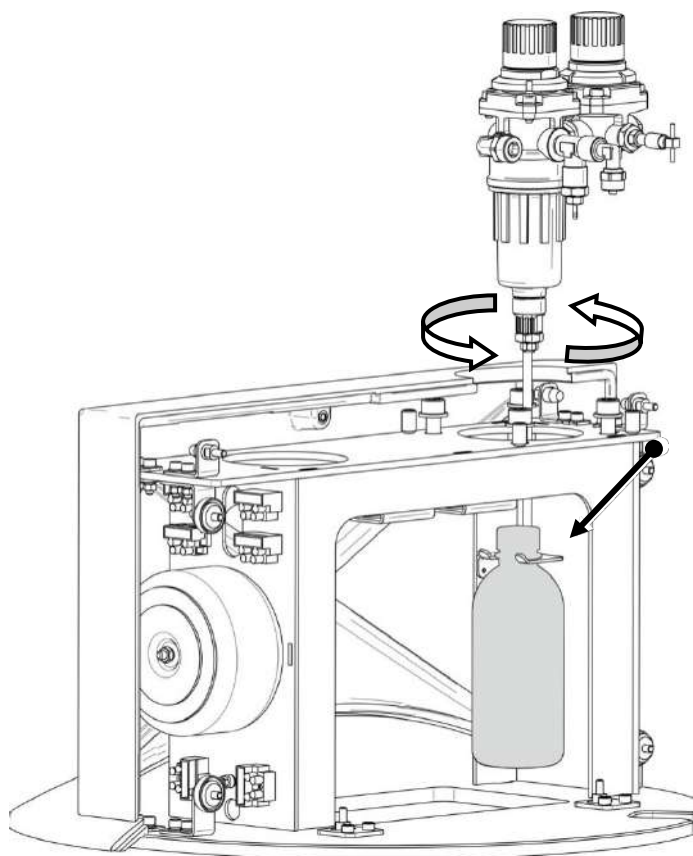

Figure 8.4.1
- turn the filter valve (Figure 8.4.1).